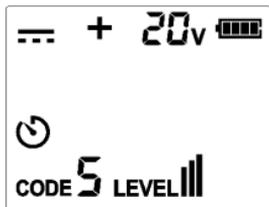

Figure 9.1a – DC Voltage Measurement
4. When the voltage is 8V~480V DC/AC (50/60Hz), and the measured voltage is DC voltage and the positive pole is connected to V+ port, then the polarity of the port will be displayed. The polarity of the V+ port will appear as “+”, as shown in **Figure 9.1a**.